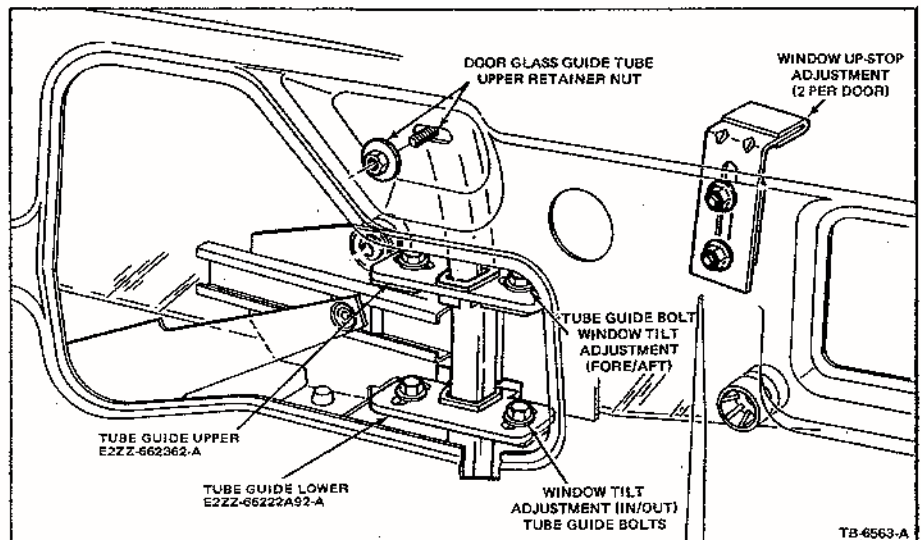

Figure 3 - Article No. 82-15-1
6. Remove the bolts holding the door glass tube guides. See Figure 3.
7. Remove the washer nut holding the top of the door glass guide tube. See Figure 3.
(or use Part Numbers E2ZZ-7622362-A and E2ZZ-76222A92-A) in place and slide the tube into position in the door. Be sure the window tilt guide (slots in and out) is on the bottom with the stop facing the outer skin and the fore and aft guide (slots fore and aft) is on top. See Figure 3.
17. Complete the attachment of the belt line reinforcement by pop riveting as shown in Figure 3. **Caution:** Pop rivets cannot be used along the top flange due to trim clearance requirements.
19. Reinstall door glass guide tube upper retainer nut finger tight. See Figure 3.
21. With the glass being held in place, and a slight pressure applied to the glass at the top, tighten the bolts on the inner window guide and on the top guide tube retainer nut. See Figure 3.